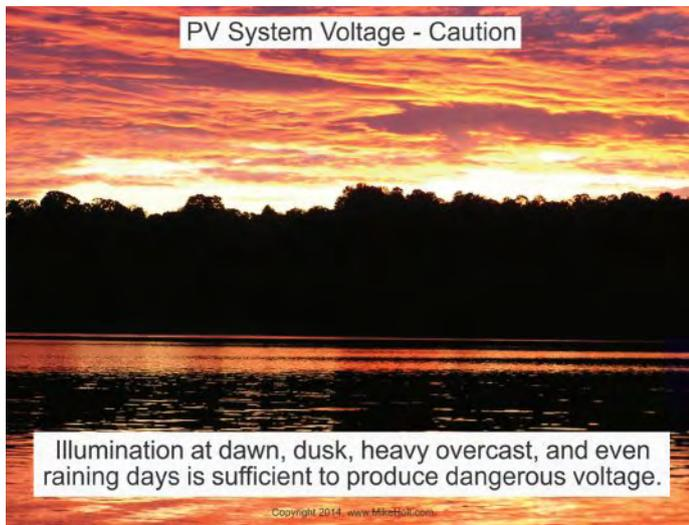

Figure 690–32
**CAUTION:** Illumination at dawn, dusk, heavy overcast, and even on rainy days is sufficient to produce dangerous voltage. Figure 690–32
**Example:** Using Table 690.7, what's the maximum PV source circuit voltage for twelve modules each rated  $V_{oc}$  38.30, at a temperature of  $-7^{\circ}\text{C}$ ? Figure 690–33